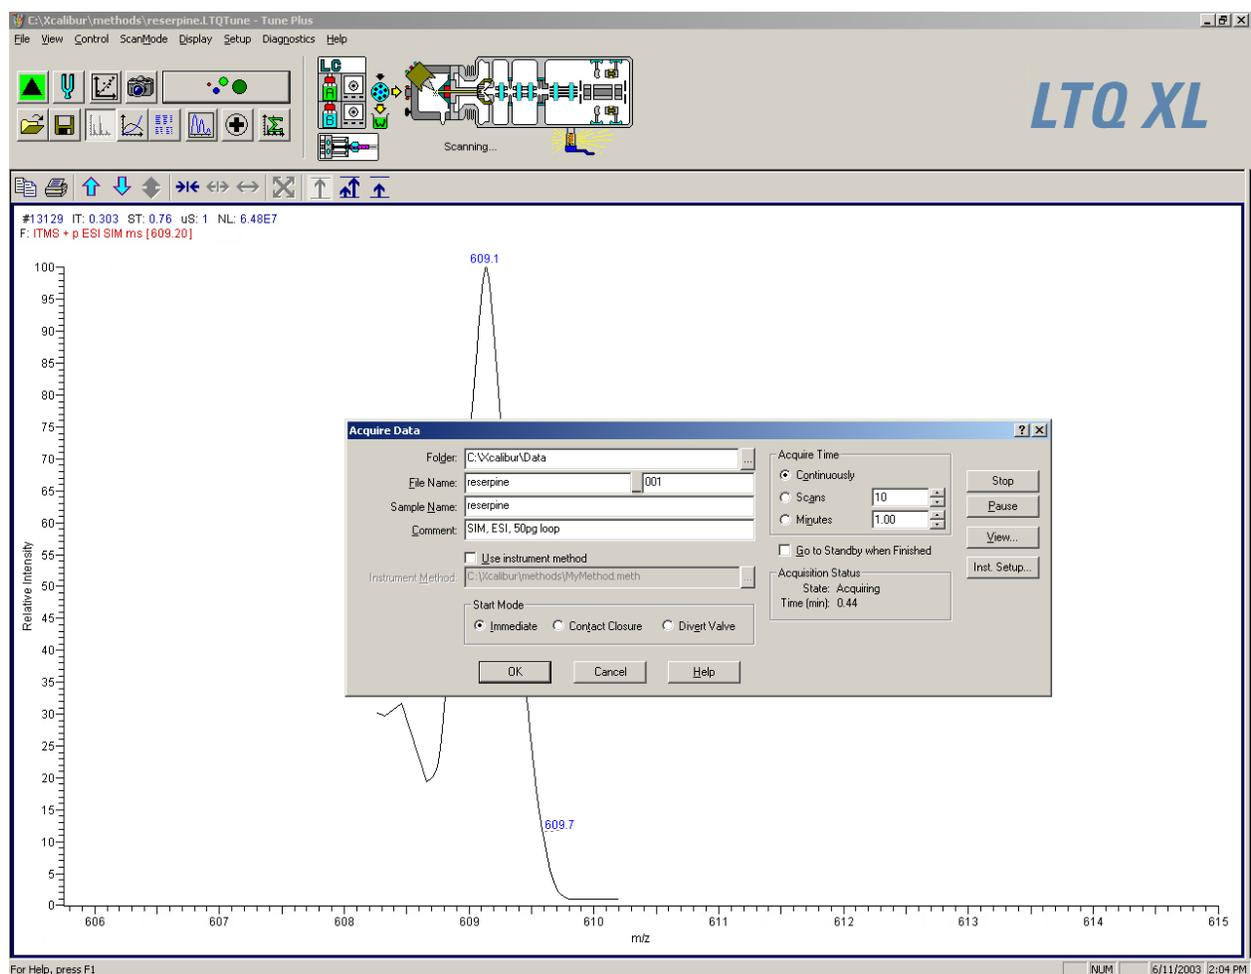

Figure 48. Tune Plus window, showing the SIM spectrum of reserpine during analysis by loop injection
12. Observe the reserpine peak (m/z 609.2), or that of your analyte of interest, in the Spectrum view. See Figure 48. Wait about 1 min before you inject again (step 13.b, below).